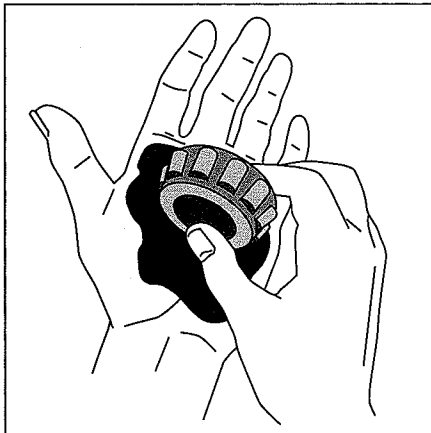

Figure 18-12:
8. Press the bearing into the gob of grease with the heel of your other hand (see Figure 18-12).